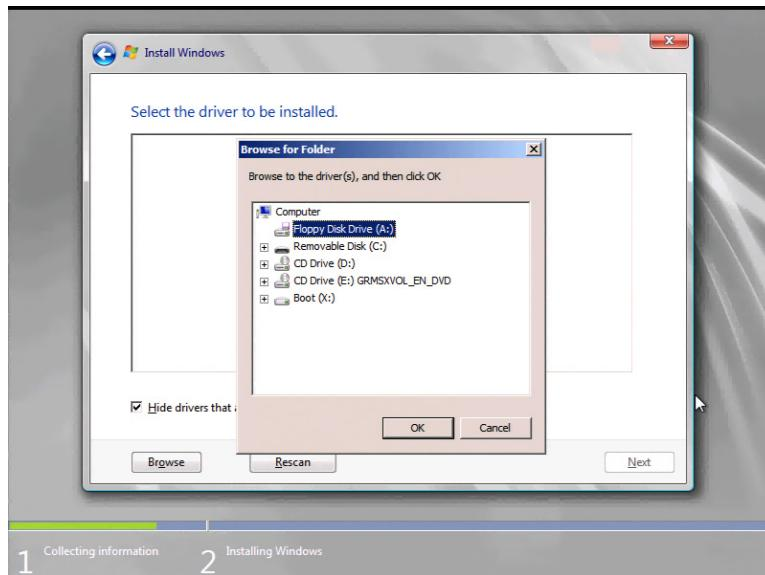

Figure 3-39. Insert the Driver Disk
5. When prompted to select the driver to be installed (Figure 3-39), insert the QLogic driver disk (3.5-inch disk, USB memory stick, CD/DVD-ROM), click **Browse**, and then select the drive containing the QLogic driver disk.